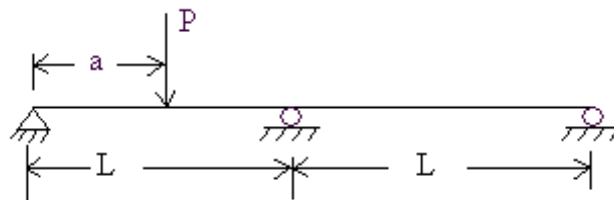

Figure 4
4. For the indeterminate beam as shown in figure 4, find the redundant reaction. [16]